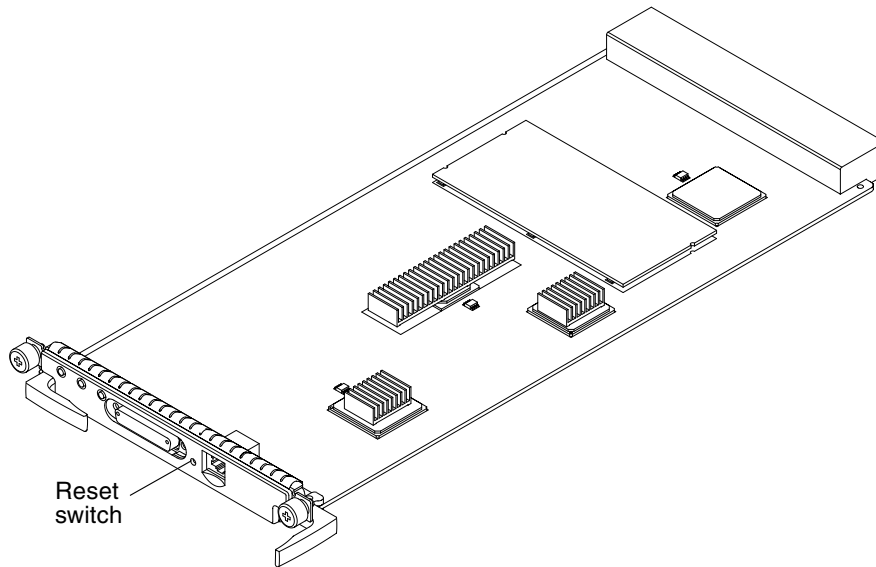

FIGURE 7-7 Reset Switch on a System Controller Board
- **Press the Reset switch (FIGURE 7-7) by using a pen tip to reset the System Controller board so that it reboots.**